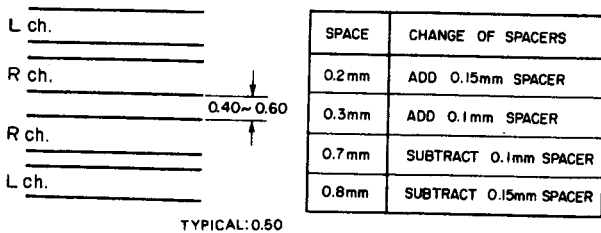

Fig. 6.7
- (1) Load a blank tape, Reference CrO₂ (DA09009A). Set the TEST TONE SW to the ON position, the TAPE SELECTOR SW to the CrO₂ position, and the MONITOR SW to the Tape position. Set to Record mode and adjust record head azimuth alignment screw D until the alignment beacon started flickering alternately. Record the same portion of the both A and B sides of the tape.
- (2) Immerse the recorded tape into a magnetized developing solution. In turn, check to insure that the recording head tracks across the center are separated by space of 0.4 to 0.6mm typically 0.5mm as illustrated in Fig. 6.7. If not readjustments from item 6.2.2. will be required.